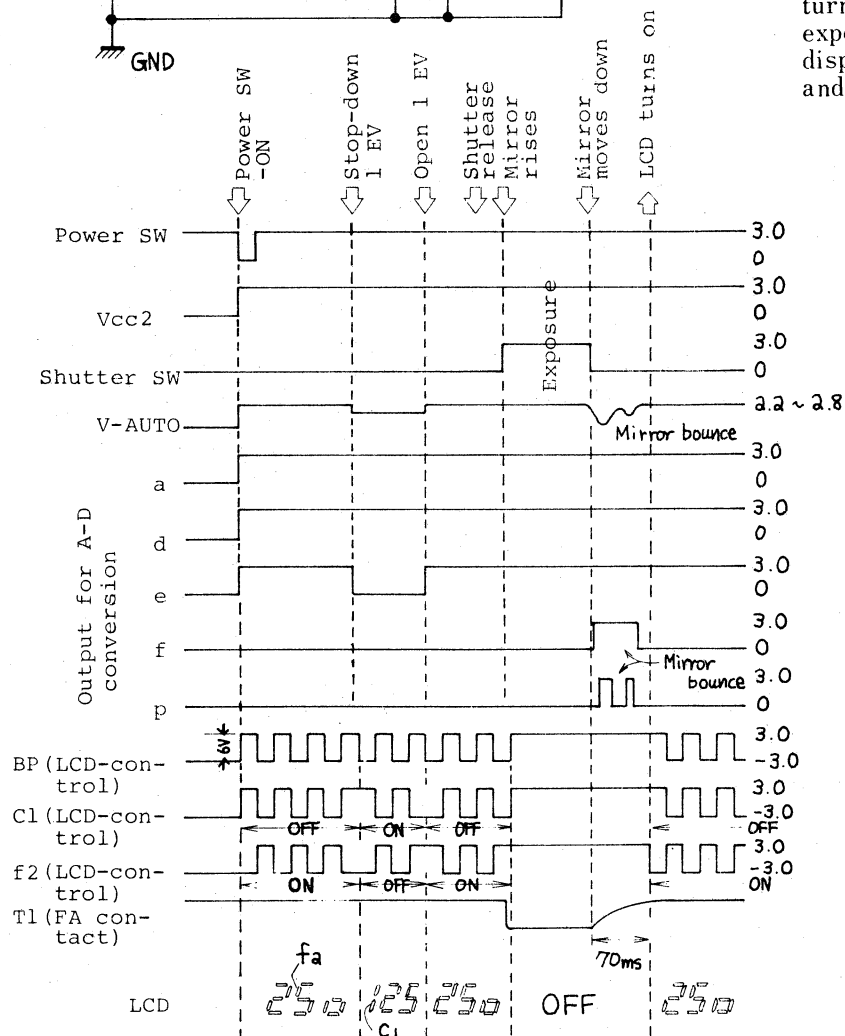

fig. 24
- 5) LCD functions as follows; LCD comprises BP (Back Plate) and segments for figure display. See Figure 26. When there is a potential difference between BP and a segment, the configuration of molecules changes to shade the light. See Notice 9. For instance, see f2 in Figure 24. When Power SW closes, f2 has a reverse pulse to BP's pulse. Thus, it provides the potential difference of ± 6 V to figure 5 of **250**. Next, stopping down the aperture by 1 EV, f2 has a similar pulse to BP's pulse. So LCD does not shade the color as **2** of **125**. See that C1 shows another example in this function.